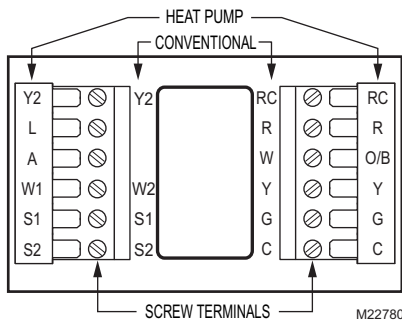

Fig. 9. Terminal identifications for system type.
1. Select set of terminal identifications that correspond to your system type (conventional or heat pump). See Fig. 9.